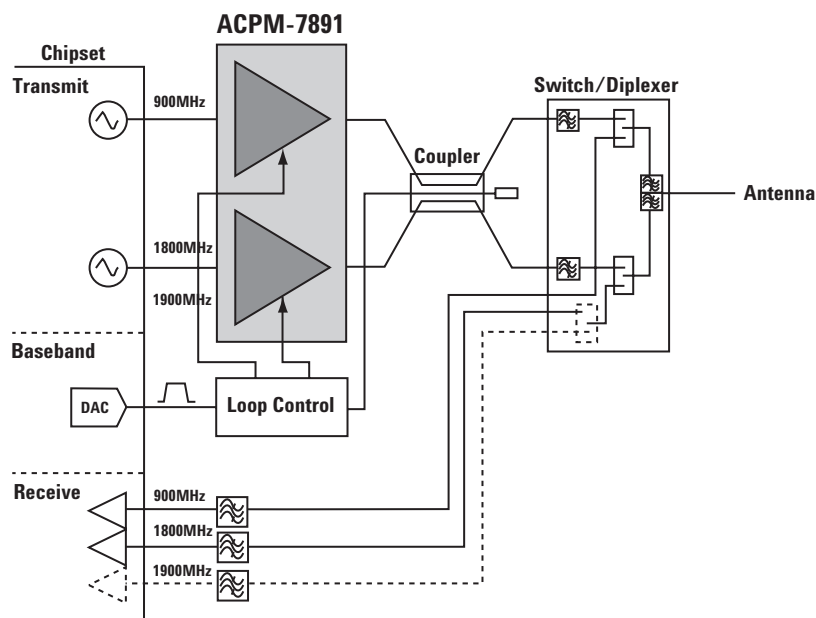

Figure 1. ACPM-7891 in a Typical Dual-band or Tri-band Terminal.
The Avago ACPM-7891 provides a cost effective dual or tri-band GSM Power Amplifier (PA) solution with the additional benefit of multi-slot GPRS operation, giving excellent efficiency and extended transmit time. Figure 1 illustrates how the ACPM-7891 fits into a typical dual-band or tri-band terminal design. The device is internally matched to 50 $\Omega$  and therefore an effective design can be implemented quickly with a few additional capacitors for d.c. blocking of the output ports and bypassing of the supply pins.